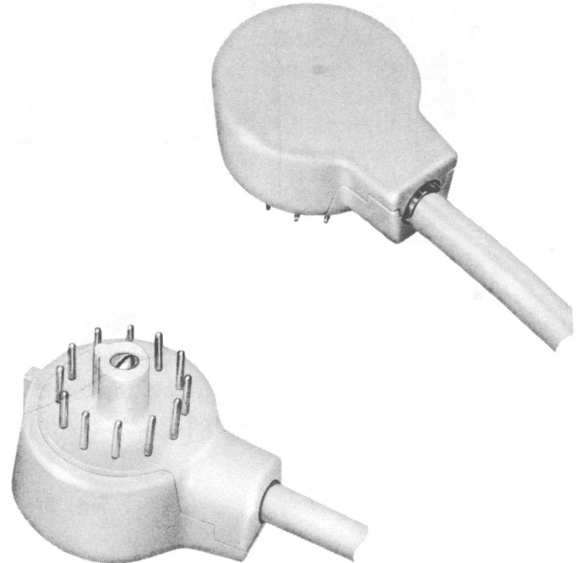

Fig. 4—504A Plug
**2.05** The 504A plug (Fig. 4) is made in three pieces of molded plastic and is held together by one screw and a snap-fit in the neck. Contacts are numbered 1 through 12 and match numbering on 541A jack.